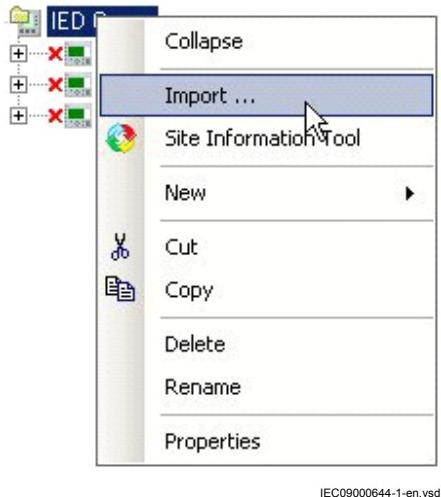

Figure 29: Import an IED from the context menu
1. Right-click the bay and select *Import ...* to select the IED configuration file (*.pcmi) , see Figure 29.